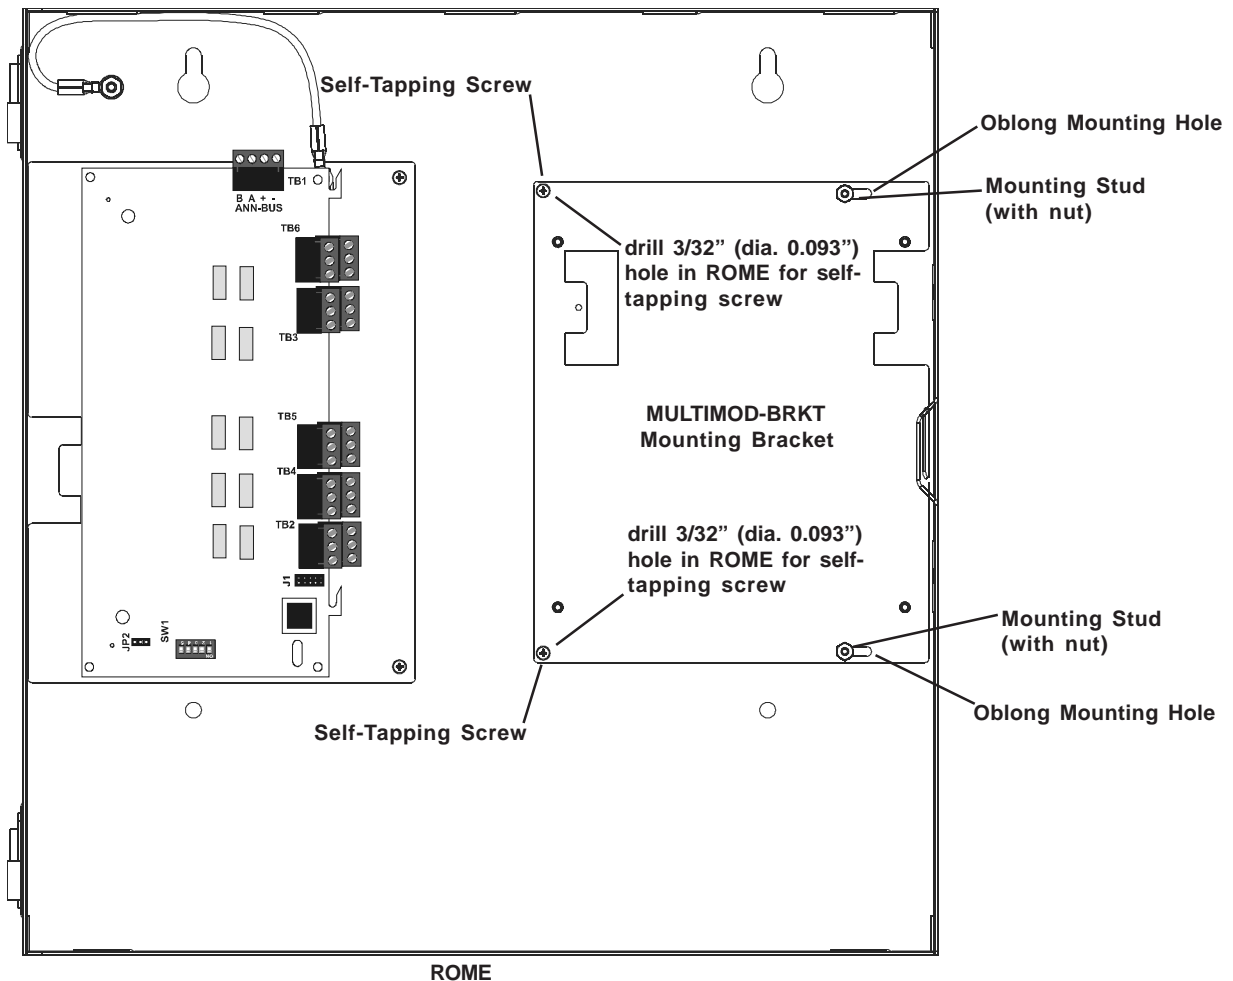

Figure 5
1. Place the MULTIMOD-BRKT mounting bracket flat against the inside back wall of the ROME, while positioning two oblong holes over the mounting studs as shown in Figure 5.